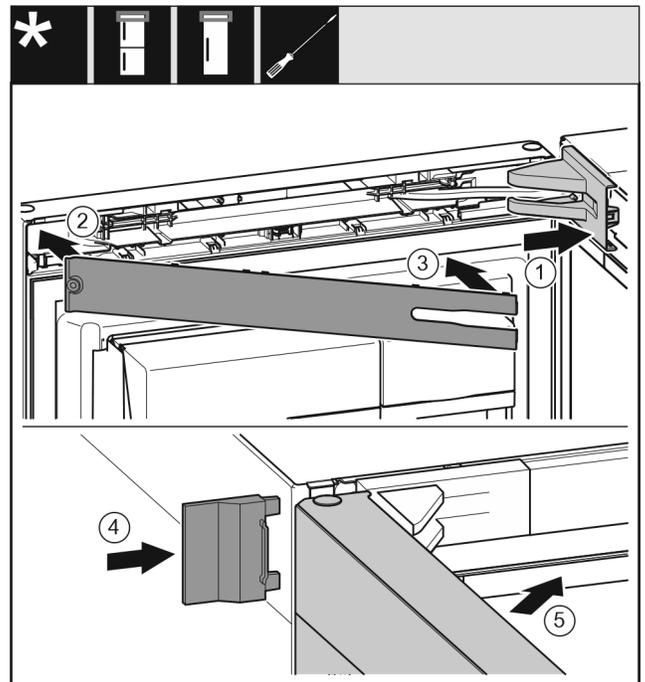

Fig. 49
- ▶ Position the bearing bracket cover and engage it. If necessary push it apart carefully. Fig. 49 (1)
- ▶ Place on the panel. Fig. 49 (2)
- ▶ Swing in the panel and latch it into place. Fig. 49 (3)
- ▶ Slide on the outer cover. Fig. 49 (4)
- ▶ Close the upper door. Fig. 49 (5)